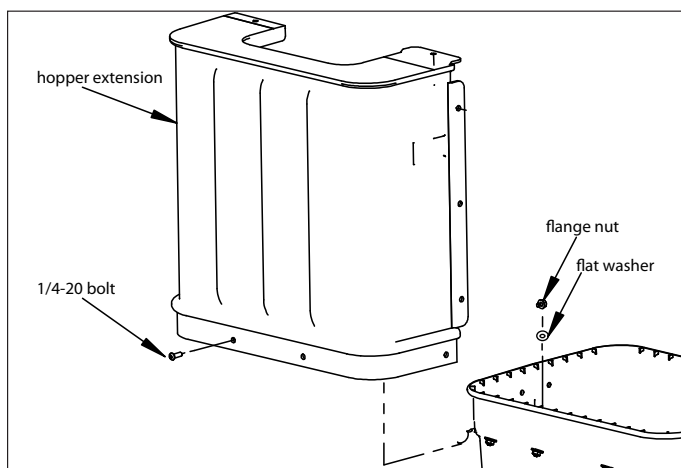

FIGURE 4
- 1) Before bolting the handle into position, slide one hopper extension half (1709470) over the rim of the hopper. The groove around the inside bottom of the hopper extension should fit over the rim around the top of the hopper. **SEE FIGURE 4**
- 2) Ensuring the hopper and hopper extension holes are now aligned along the top rim of the hopper, place a 1/4-20 x 3/4 bolts (1960507) through each of the four holes in the extension and hopper. Secure bolts in place with the included 17/64 x 5/8 flat washers (1921319) and 1/4-20 flange nuts (1930642). **DO NOT fully tighten hardware at this point. SEE FIGURE 4**